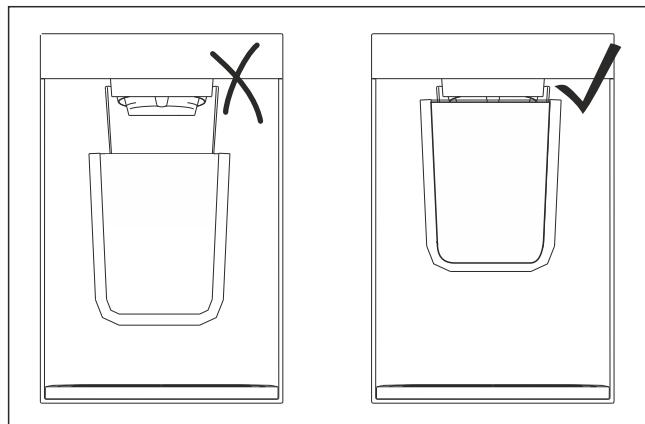

Fig. 101 Example illustration
- Hold the container as close as possible to the dispensing opening. (see Fig. 101)